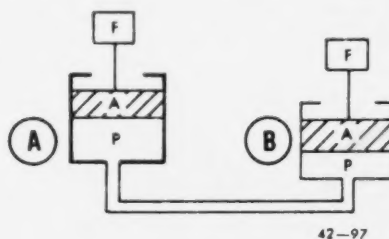

Figure 1-4. Applying the relationship of force, area, and pressure.
These problems seem simple enough, but not too many hydraulic systems work with only one cylinder. Let's look at a system that has two cylinders. Refer to figure 1-4. Cylinder A will act as the pump and the other as the actuating cylinder. If there is a force of 500 pounds pushing down on an area of 10 square inches, then the pressure will be 50 psi. When the 50 psi is applied to an area of 5 square inches in cylinder B , the resulting force will be 250 pounds. Notice that the pressure was the same throughout the problem.
6. Using figure 1-4 find the force, area, and pressure.